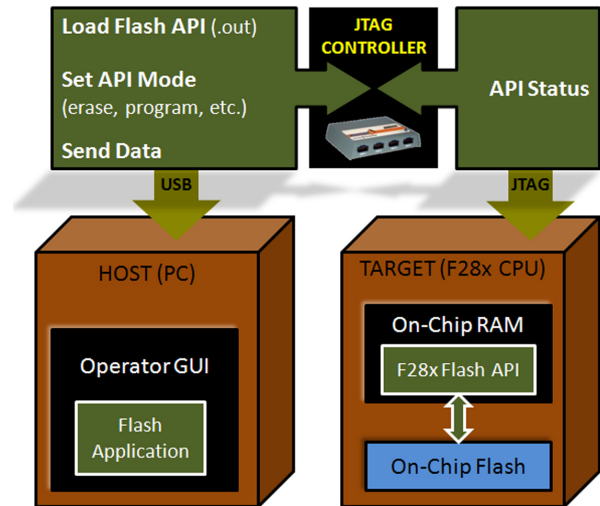

Figure 1 – C2000™ Flash API Implementation
The C2000 Flash API from TI exists in two parts. The first part is a program resident on the host machine (PC) that downloads the second part, the executable code running on the F28x CPU, to clear, program and lock the flash memory. The PC then sends data to the executable code on the CPU to program the flash memory. The two parts communicate via controller over the target JTAG interface to complete the task. Figure 1 illustrates that process. More details on the TI C2000 Flash API can be found on the TI web site at www.ti.com/c2000flashtools.